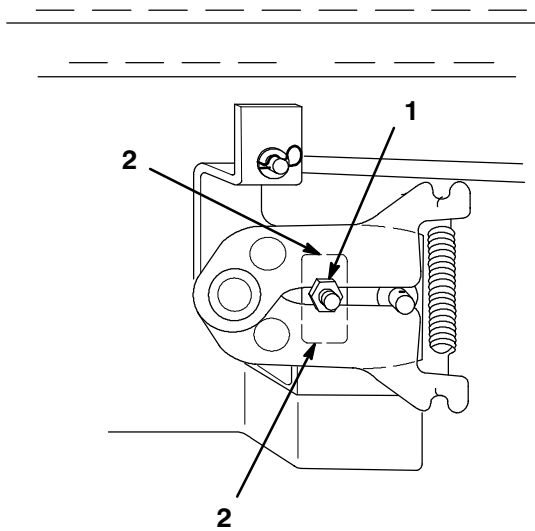

Figure 8
3. Loosen locknut securing adjustment (Fig. 8).
4. Move adjustment stud up or down until creep is minimized (Fig. 8). There may still be some wheel rotation with wheels off the ground.
5. Tighten the locknut (Fig. 8). Move the traction control pedal forward and reverse and allow it to center. Verify that there is no creep with the wheels on the ground.
After adjusting the hydro neutral position it is necessary to check the traction control pedal. Shut the engine off and check the following. While pressing the control pedal full forward and full reverse the pedal must not contact the footrest pad before hitting the stop(s) at the transaxle (Fig. 8).
1. If contact is made with the foot pad, before hitting stop(s) on transaxle (Fig. 8), in either forward or reverse directions, adjustment is required.